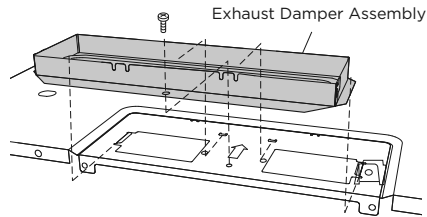

Figure 16
- Attach the Exhaust Damper Assembly to the fan cover on the top of the outercase cabinet by sliding it into the slits in the same direction as the arrow. Use 1 Tapping Screw 4 x 12 mm from the INSTALLATION HARDWARE and tighten into place. See Figure 16.